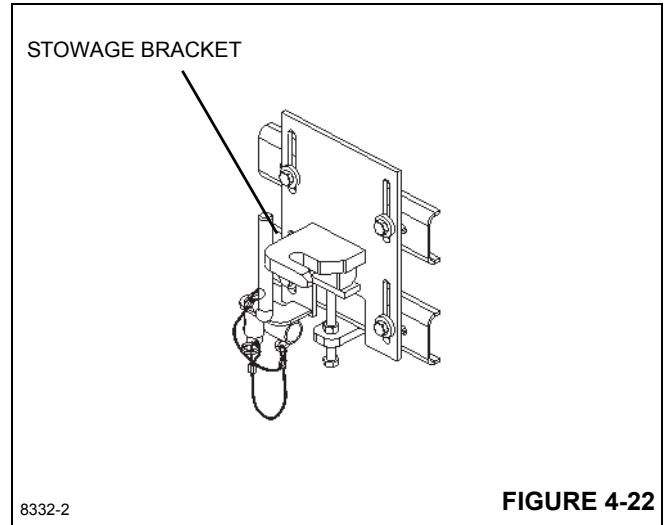

FIGURE 4-22
It is extremely important for the safety of the crane operator and all others working near the crane that the jib boom extension be properly secured to the jib stowage bracket (Figure 4-22) or to the boom nose of the main boom.
5. With jib pinned to the sheave head, swing the jib parallel to the boom and secure to the jib stowage bracket Figure 4-22.